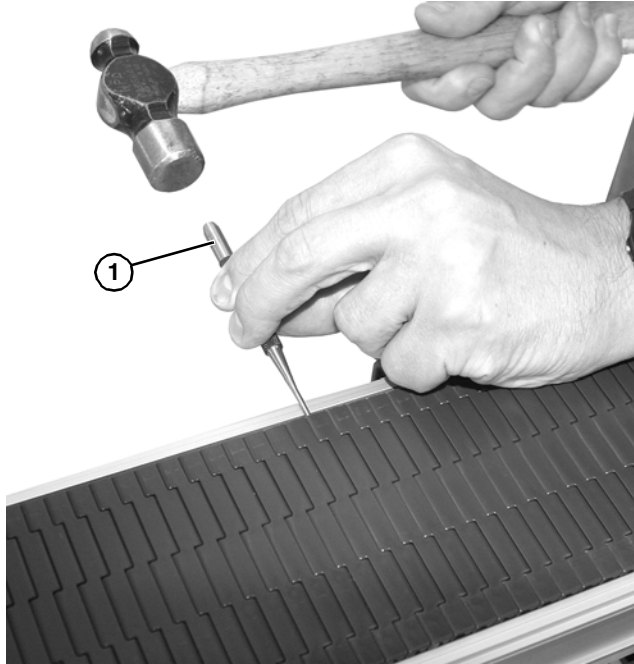

Figure 32
2. Insert punch (**Figure 32, item 1**) into non-retaining side of belt, pushing rod out.